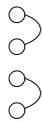

Figure 9A
- 2) One of the modules should be chosen to be the main module of the system. This is the module in the middle of the chain, or as close to that as possible. The main module should have both of the jumpers installed, as shown in figure 9A.